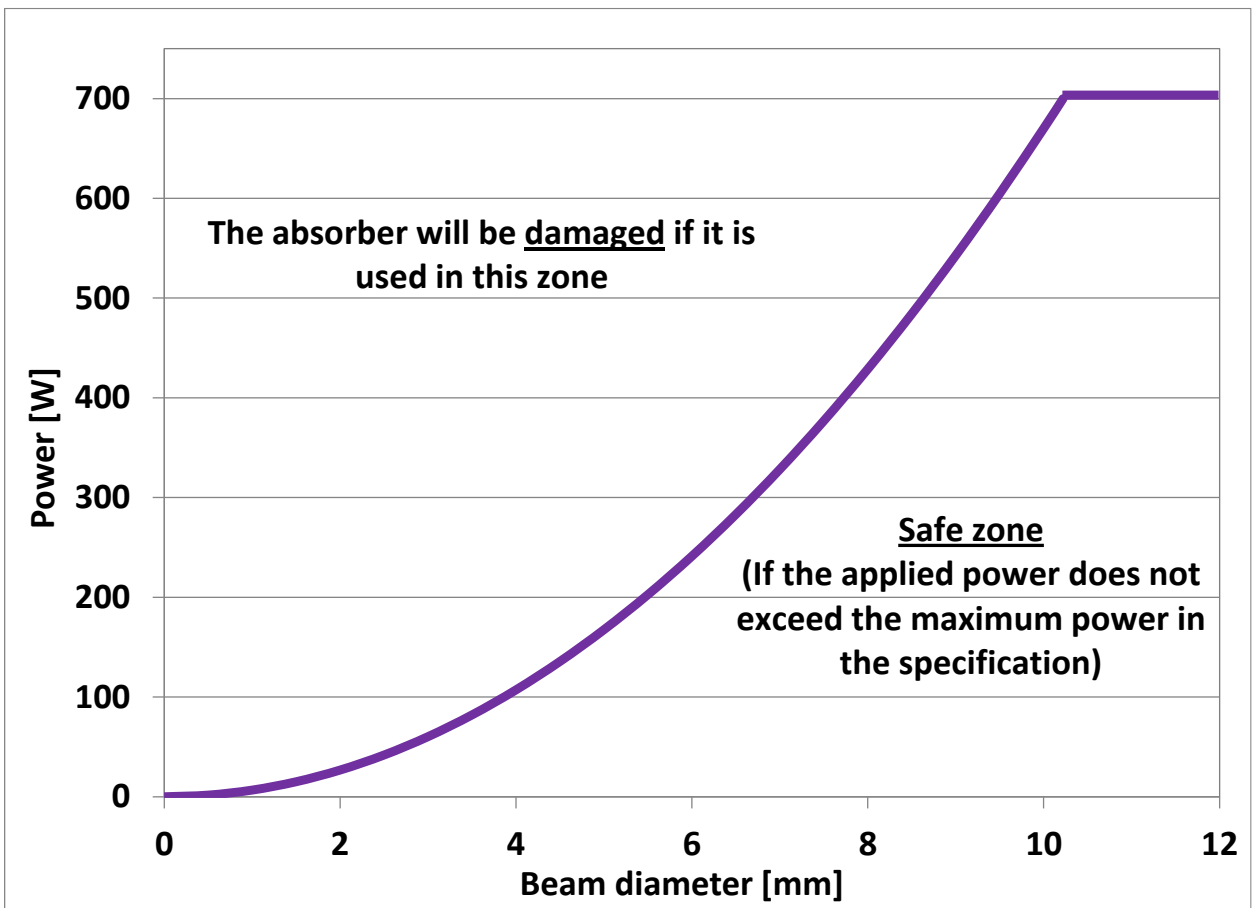

FIG. 1-10 MINIMUM BEAM SIZES FOR UP WITH H-TYPE ABSORBER AT 1.064 μM.
1. Required specifications for customer-supplied back module are given in Fig 1-10 through 1-12. Note that tapped holes must be electrically conductive, and that there has to be at least bare spots to allow electrical contact with detector (see point 5.).